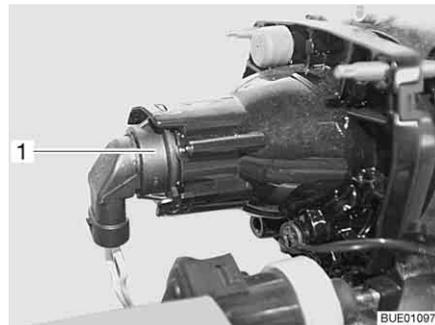

Fig. 285 Low beam/main beam/parking light
- Put your hand behind the lamp holder (Fig. 285,1).